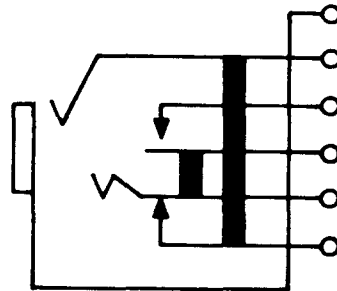

Fig. 6—360A or C Jack
2.06 **360A and C:** These single-mounted jacks (Fig. 6) are heavily insulated and intended to be mounted with the springs in a vertical plane. These jacks are used with the 310 plug.